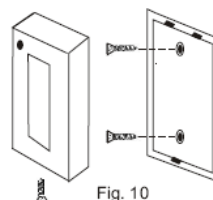

Fig. 10
3. Using the 6-ft power cord with in-line switch, connect the pre-stripped wires to the 12V AC 20VA transformer terminals (refer to Fig. 10). Strip the insulation on the opposite ends of the wires back approximately 1/4inch, and insert into receiver terminals labeled 12V AC input (Refer to Fig. 8.).
3. Remove the screw from the bottom of the sensor/transmitter and separate the front cover (refer to Fig. 10).
5. Replace the front cover and secure it using the screw provided (refer to Fig.10).